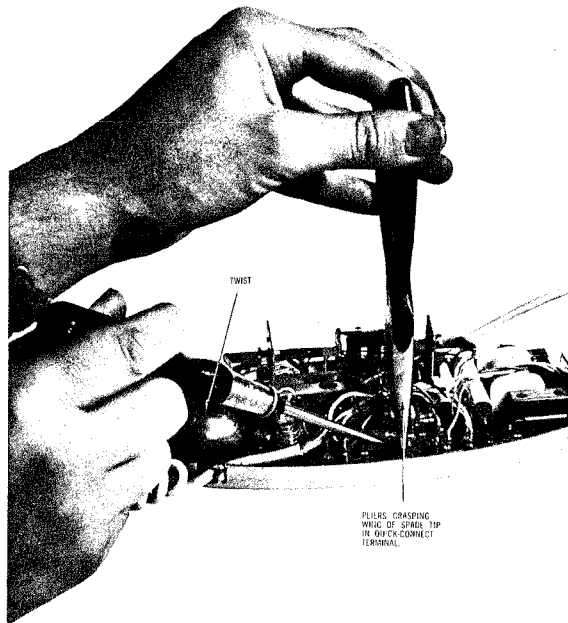
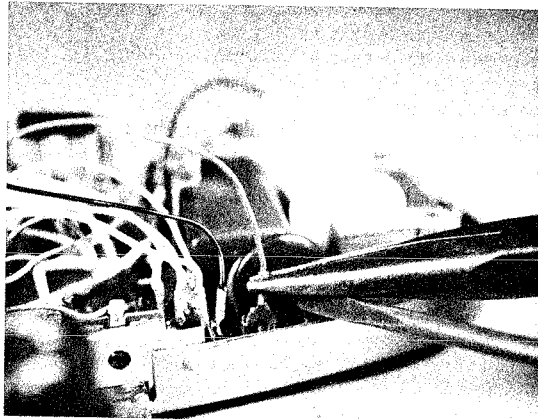
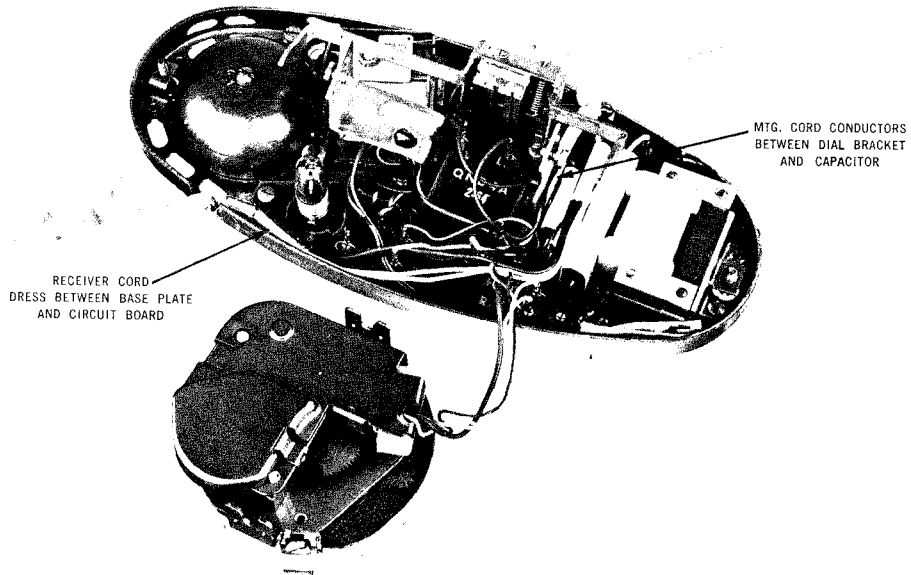

Fig. 10 — Method for Removing Spade Tips from a 702BQ1A Telephone Equipped With Quick-Connect Terminals
Fig. 11 — Method of removing Spade Tip
Fig. 12 — Telephone — Location of Set Cording
2.12 The 702B type differs from the 701 and 711 types, in that it uses a printed circuit type network and quick connect terminals. Cord connections are made to the networks by pushing spade tips into split terminals, Figs. 10 and 11. 702B Sets manufactured before Jan. 1, 70 are equipped with the QNB4A-2 network and after that date, the QNB17A network.
To remove the spade tip grasp the wing of the spade with the pliers held vertically. Insert the tip of the C or D type screwdriver under the tip of the longnose pliers and twist screwdriver so as to lever the pliers upward. *To insert* the spade tip, place it loosely in the quick-connect terminal. Then press it firmly into place with one tip of the pliers on each wing of spade tip. (See Fig. 10) On the later design, dual clip type, *to remove* the spade tip, grasp the spade tip by the shank with long-nose pliers. Use the blade of a screwdriver as a fulcrum to lift the end of the pliers and spade tip clear of the clip. (See Fig. 11) *To insert* spade tip, place it easily in place with the long-nose pliers. Care must be taken to dress all set wiring so as to prevent it from interfering with the switch assembly or dial mechanism. (See Fig. 12)
4.04 The 702 type telephone uses a quick-connect terminal into which the cord conductor spade tips are inserted. Whenever the telephone set housing is removed for maintenance, the tightness of these connections should be checked. If found to be loose, the terminal slot may be forced closed by using longnose pliers. When inserting or removing spade tips from quick-connect terminals, longnose pliers must be used. For detailed instructions, see para. 3.02 and Fig. 10 & 11.